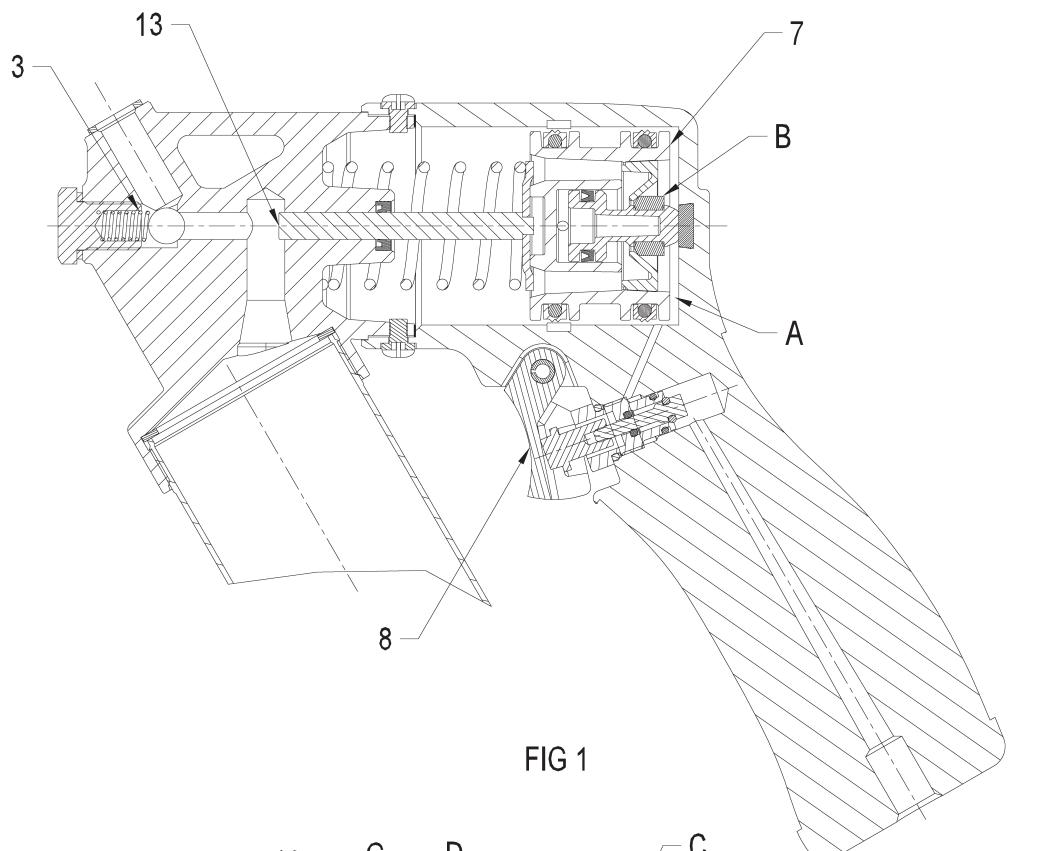
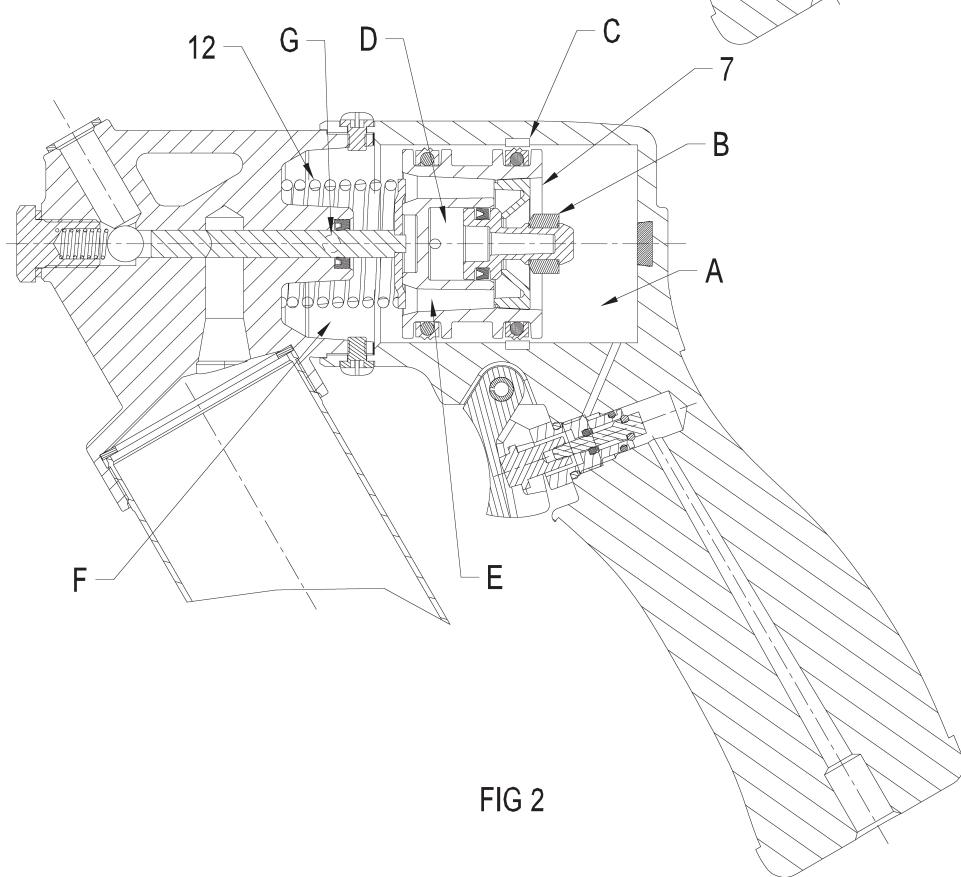

FIG 1
FIG 2
The gun operates when the trigger (8) is depressed. Air is admitted to Chamber A (see Fig. 1.) and pushes the piston (7) with the plunger (13) to the left. Vent valve B is closed. The grease, under pressure from plunger (13), opens the check valve (3) and delivers one shot of the lubricant.
When the piston (7) reaches the bypass groove C (see Fig. 2) air is admitted into chamber D and opens the vent valve B. The air pressure from chamber A is vented through valve B and vent holes E to the chamber F which communicates with the atmosphere through the hole G. The air pressure is equalized on both sides of the piston (7) and the force of the spring (12) will return the piston to the initial position, recharging the gun (see Fig 1). Vent valve B will be closed and air from chamber D is vented through the bypass groove C to the atmosphere. The cycle repeats in the same manner while the trigger is depressed.